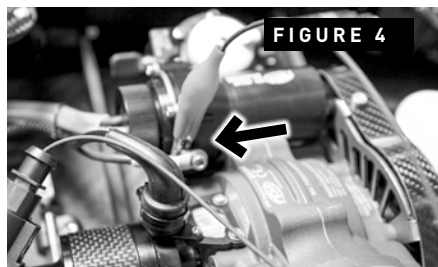

FIGURE 4
- 6) Attach the small crocodile clip on the ground cable eye terminal - FIGURE 4.